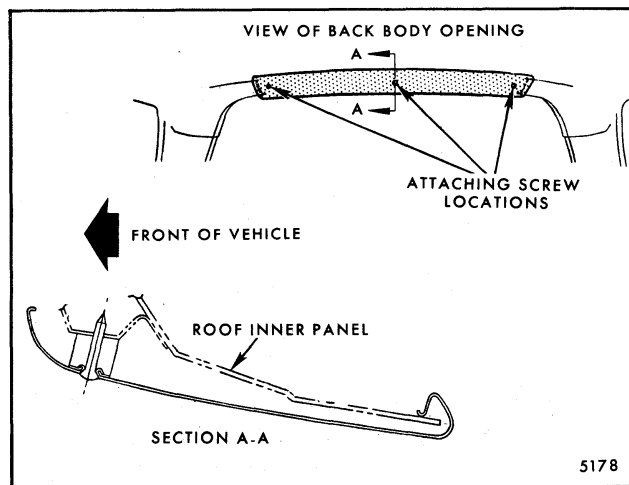

Fig. 7-95-Back Body Opening Upper Finishing Molding
1. Remove screw retained back body opening upper finishing molding (Fig. 7-95).